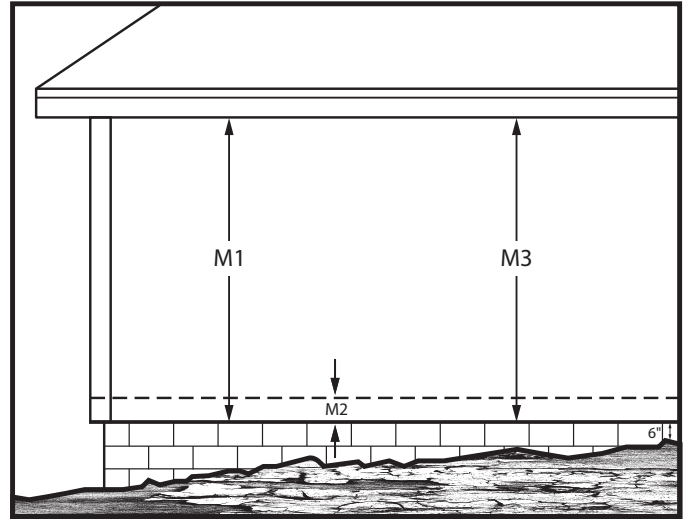
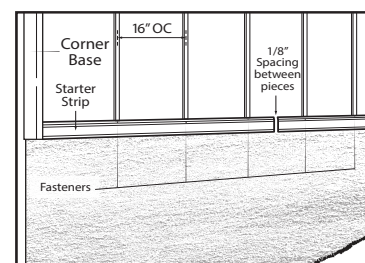

Figure 2
Figure 3.2
2.3 After you have taken all walls' M1 measurements, use the lowest M1 measurement and compare it to an adjoining wall's M1. Use the spacing of each course of siding to ensure the siding courses for each wall will align to the adjoining walls. Mark where each wall M1 (bottom of siding) must be to ensure proper course alignment between walls. The lowest pre-finished metal surface's M1 must be a minimum of 6" above ground level at all points. (Figure 2)
3.2 Install Starter Strip (for Horizontal Siding) or Z-Flashing (Figure 2.M3 for Vertical Siding) upper edge on the base of all walls referencing the chalk line established previously, fastening every 16" on center. The Starter Strip/Z-Flashing should overlap the Corner Base by 1/8". (Figure 3.2)